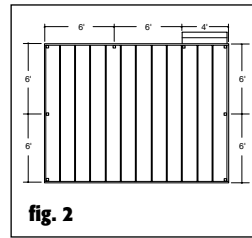

fig. 2
Step 1: Determine the number of railing posts needed for your deck. Post spacing of 6' on-center is recommended. Example - a 12'x16' deck attached to a building with a 4' access opening on one side will require a total of 8 posts (Figure 2).